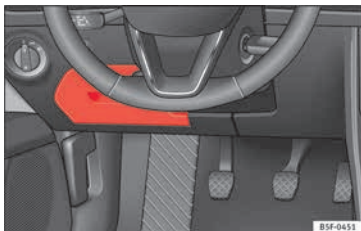

Fig. 101 On the driver-side dash panel: fuse box cover
- *Opening*: fold the cover down » **Fig. 101**.